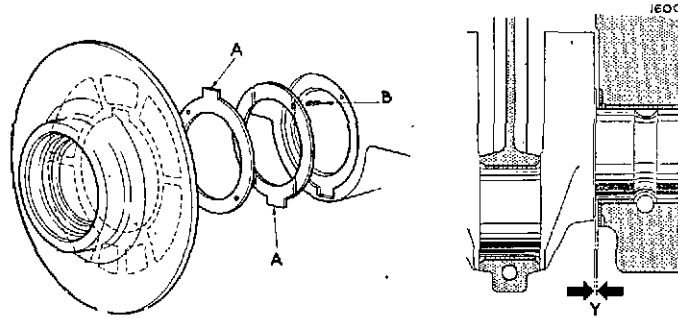

Fig. 7
39. To replace crankshaft and time engine (Fig. 7 & 9)
- (d) When fitting new thrust washers, be sure that the grooved sides are away from the bearing housing and that the tongues (A) are located in the respective recesses. Fit new pins (B).